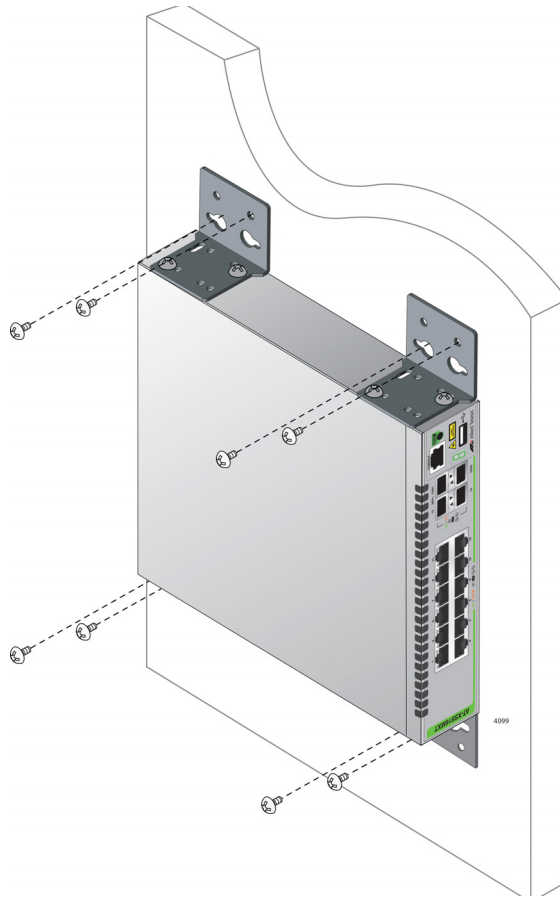

Figure 20. Installing the Switch on the Wall
5. Using a flat-head screwdriver, remove the rubber feet from the bottom of the switch. See Figure 20.